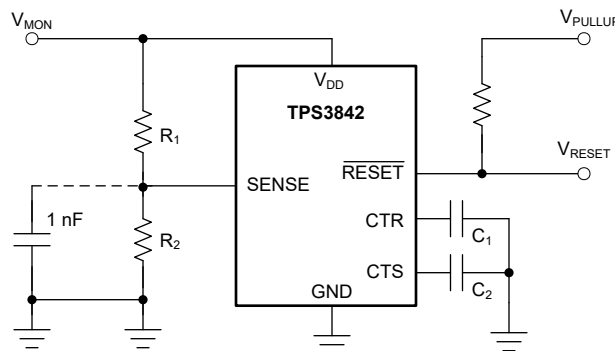

Figure 7-3. Using the TPS3842A011DRLR to Monitor a User-Defined Threshold Voltage
Figure 7-3 illustrates an example of how to adjust the voltage threshold with external resistor dividers. The resistors can be calculated depending on the desired voltage threshold and device part number. TI recommends using the 700mV threshold option when using an external resistor divider. The variant bypasses the internal resistor ladder for higher accuracy when using external resistors.
For example, consider a 12V rail, V_{MON} , being monitored for undervoltage (UV) using of the TPS3842A011DRLR variant, as shown in Figure 7-3. The monitored UV threshold, denoted as V_{MON-} , is the desired voltage where the device asserts the reset. For this example $V_{MON-} = 5.8\text{V}$. To assert an undervoltage reset the voltage at the sense pin, V_{SENSE} , needs to be equal to the input threshold negative, V_{ITN-} . For this example variant $V_{SENSE} = V_{ITN} = 0.7\text{V}$. Using R_1 and R_2 the correlation between V_{MON-} and V_{SENSE} can be seen in Equation 1. Assuming $R_1 = 100\text{k}\Omega$, and R_2 can be calculated as $R_2 = 13.7\text{k}\Omega$.